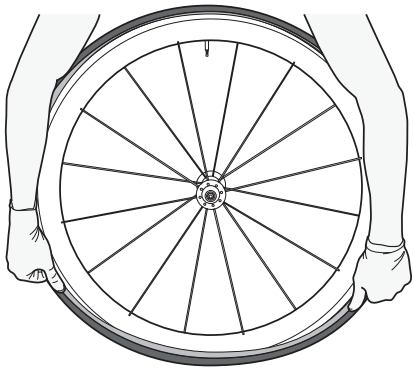

Figure 26.
7. Continue working down the tire, pressing it into rim until there are only a few inches of the tire remaining outside the rim bead (Figure 26).